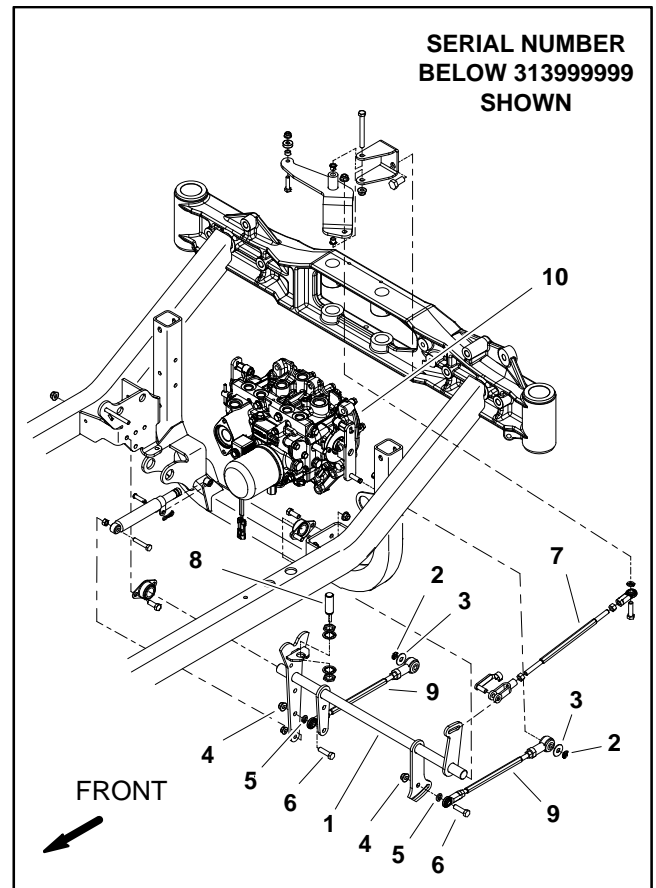

Figure 67
4. On both sides of machine, remove cap screw and flange nut that secures the pump control arm to the speed control shaft (Fig. 67). Note that cap screw is installed toward the right side of the machine. Locate and retrieve lock washer from between control arm and control shaft.
13. Locate and note location of two (2) dowel pins from transmission and flywheel housing.
14. On both sides of transmission, remove retaining ring that secures pump control arm onto transmission control arm (Fig. 67). Slide control arm from transmission control arm.
4. Slide both pump control arms onto transmission control arms and secure with retaining rings (Fig. 67).
6. Carefully place two (2) dowel pins in flywheel housing. Make sure that dowel pins are perpendicular to face of housing during installation.
8. Secure transmission to the flywheel housing with seven (7) cap screws and lock washers. Make sure that shorter cap screw is installed in proper location. Torque cap screws **400 in-lb (45 N-m)**.
10. On both sides of machine, secure the pump control arm to the speed control shaft with cap screw and flange nut (Fig. 67). Make sure that lock washer is between control arm and control shaft and also that cap screw is installed toward the right side of the machine.